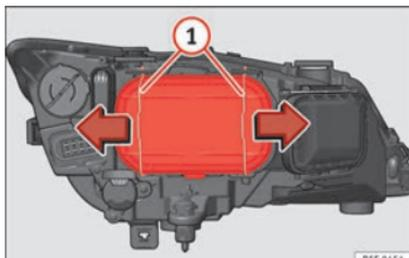

Fig. 205 Dipped beam headlights.
- Move the loops » Fig. 205 ① in the direction of the arrow and remove the cover.